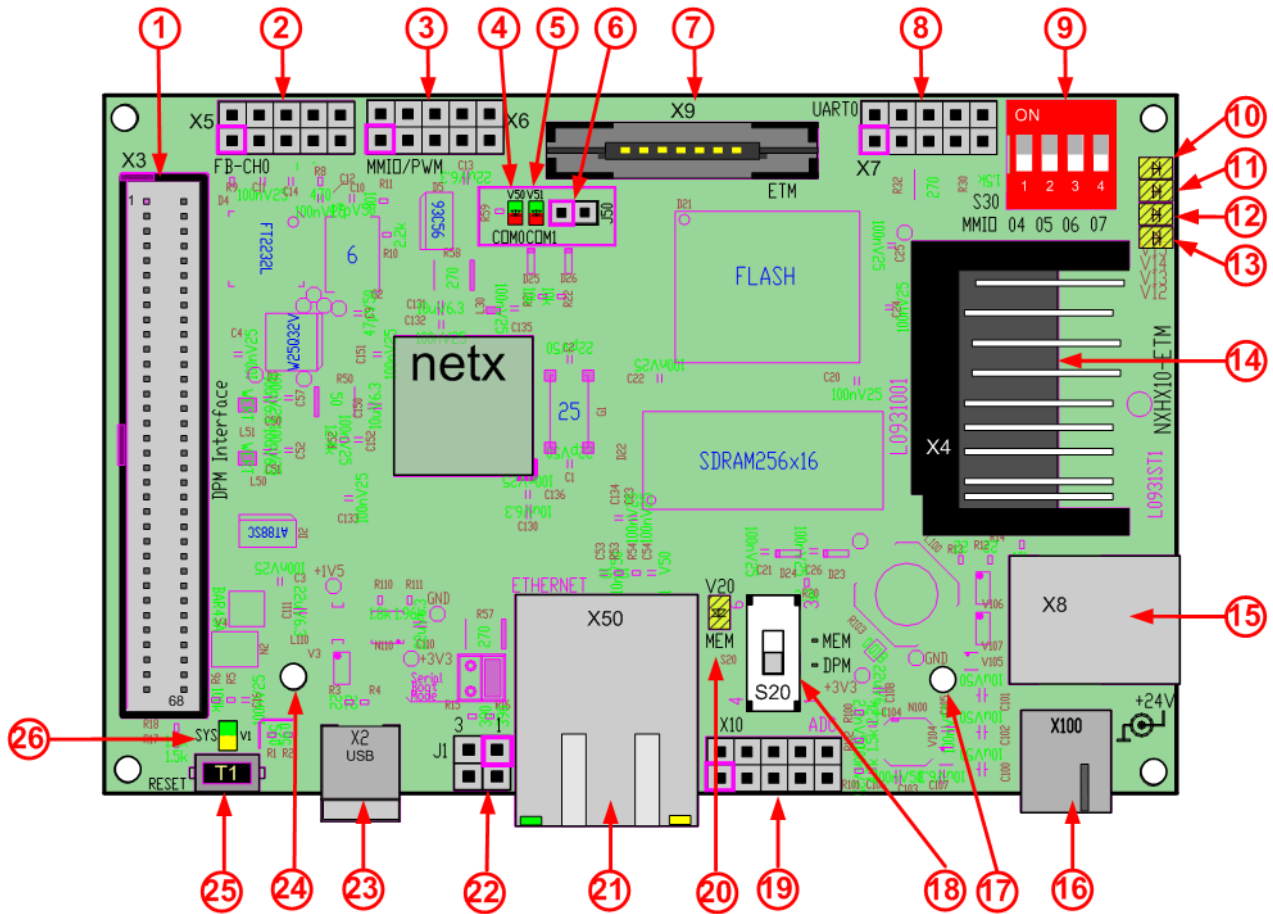

Figure 1: NXHX 10-ETM Printed Circuit Board
Number 25 in Figure 1 on page 9.
Number 18 in Figure 1 on page 9.
Number 9 in Figure 1 on page 9.
Number 22 in Figure 1 on page 9.
Number 6 in Figure 1 on page 9.
Number ① in Figure 1: NXHX 10-ETM Printed Circuit Board